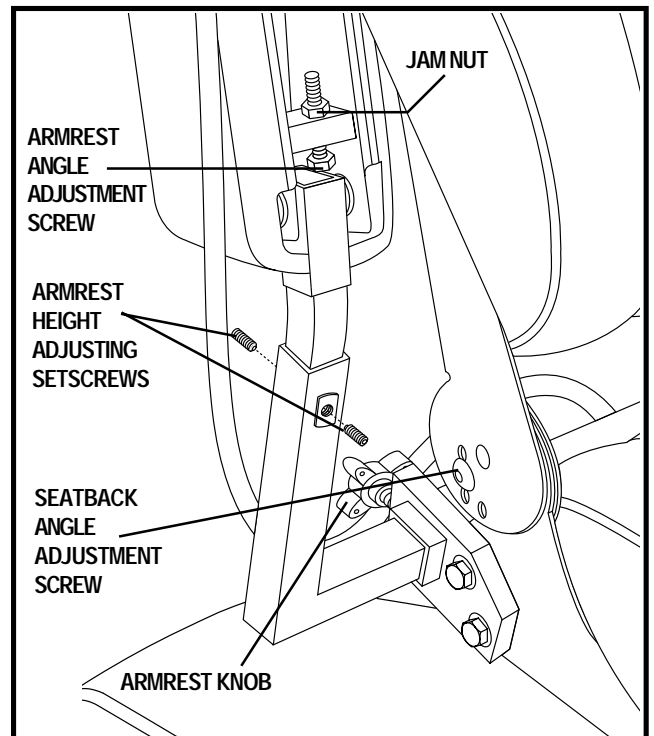

Figure 24. Seatback/Armrest Adjustment
1. Remove the seatback angle adjustment screws from both seat hinges. See figure 24.
1. Locate the two armrest knobs on each side of the armrest receiver bracket. See figure 24.
1. Loosen the two setscrews located on the armrest receiver. See figure 24.
2. Loosen the jam nut. See figure 24.